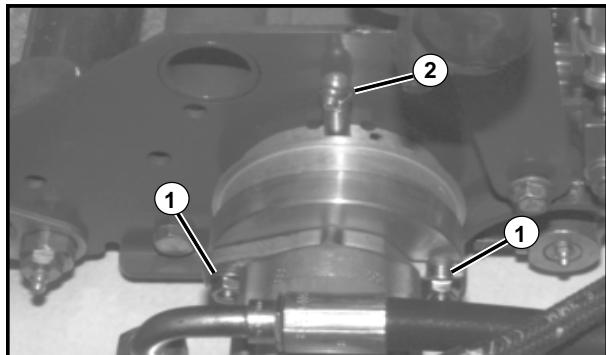

Fig.8.3.2
5. Install two (2) 5/16-18 x 1 1/2" screws (with washer and lock washer) loosely into the mounting holes (See Fig 8.3.2).
7. Add lithium based lubricant to the bearing housings at BOTH ends of the reels (reference lubrication fitting in Figure 8.3.2). Bearings at both ends are partially packed with lubricant at the factory, but additional lubricant is required once assembled. Use a pressure gun to add lubricant until it starts to escape from the fittings. Wipe off any excess lubricant.